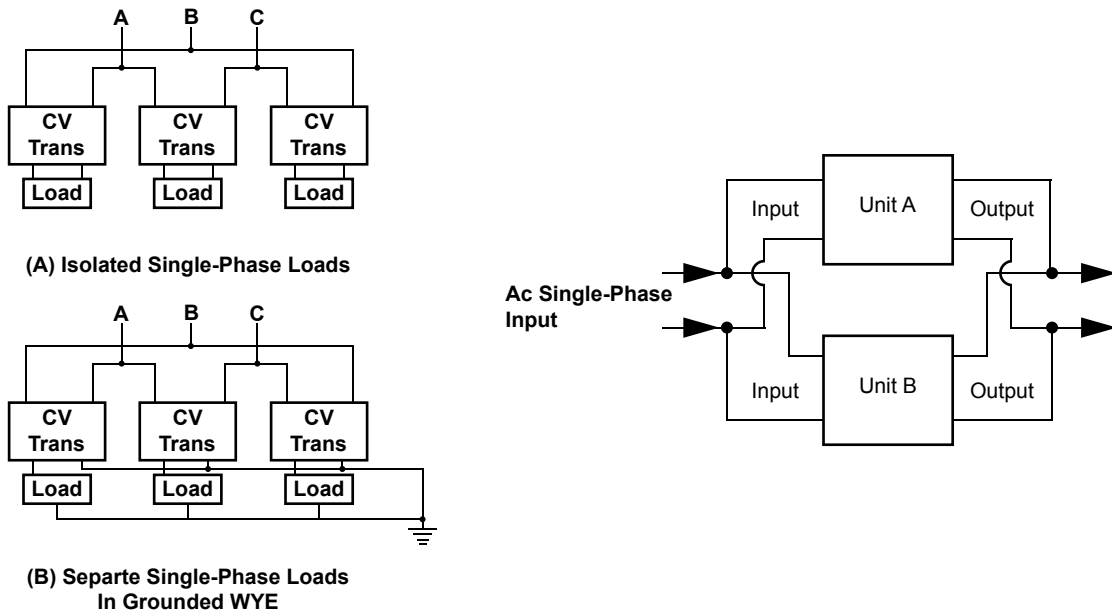

FIGURE 6
Units of the same SolaHD catalog number may be connected in parallel to obtain a larger load capacity. Both input and output connections must be made in parallel (see Figure 6). The SolaHD catalog number must end in -8 or -C8 and must be larger than 1 kVA. No portable units can be paralleled.
This circuit arrangement is not intended to serve single-phase line-to-line loading or three-phase Delta loading. Outputs must serve three independent, single-phase loads of the same total Volt-Amphere (VA) rating. Connections should be made in one of two ways as shown in Figure 6.